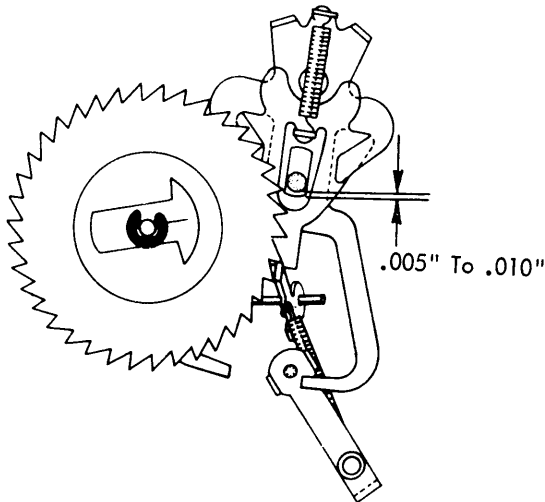

FIGURE 186. Ribbon Feed Plate Adjustment
3. Ribbon Feed Plate - With the ribbon mechanism set for a reversing operation and the ribbon cam at its high point, adjust the ribbon feed plate forward or back so that the ribbon feed pawl holds the reverse interposer within .005" to .010" of its total travel (Fig. 186).